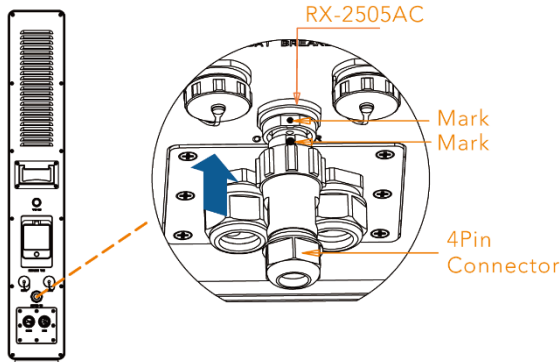

Figure 5-9 – CT connector insertion with white guide marks
2. Connect aviation plug (CT/METER) to the RX-2505AC(CT/METER) port as shown in Figure 5-9.